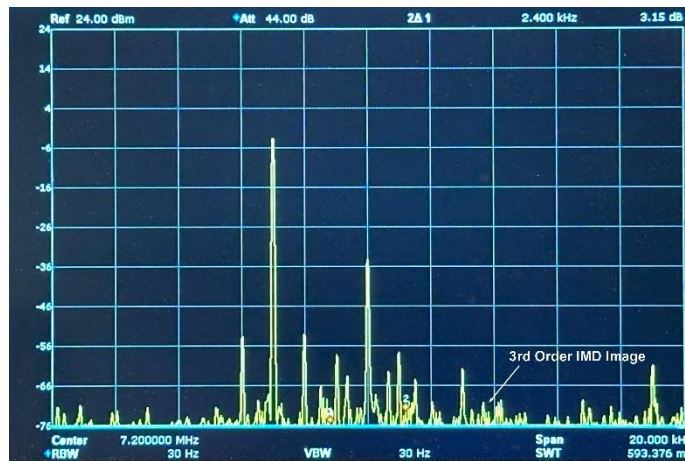

Figure 14 Narrow-band Spectrum After IQ Calibration
- Figure 14 shows the SA plot at a minimum.
- On the SA observe the adjacent channel peak at 7.200750MHz and minimize. Figure 14 shows the narrow-band spectrum.